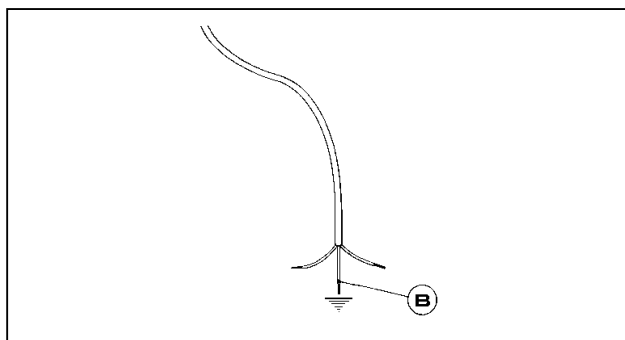

FIG. 14
If the power supply cable is replaced, the installer should leave the ground wire longer (B) than the phase conductors (fig. 14) and comply with the recommendations given in paragraph 9.